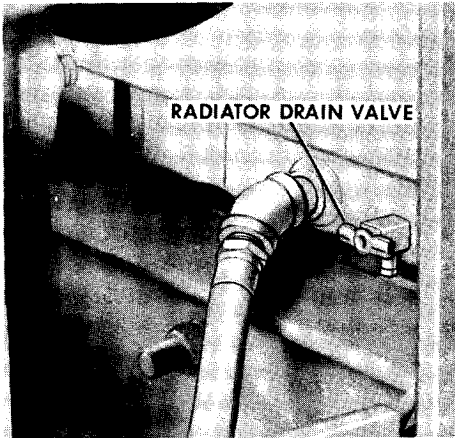

Figure 48
1. While the coolant is still hot, open the radiator drain valve and the engine block drain valve, Figure 48 and 49.